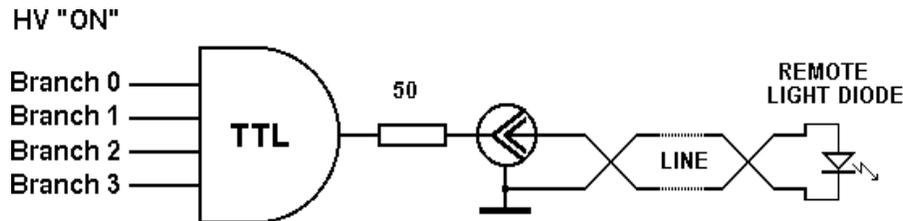

Fig. 5 Schematics of the remote indicator.
- The base voltage (BV) on/off indicators (red). They are positioned opposite to the corresponding branch of a system bus.
- The "LEMO" connector for the remote indication of on/off state of a base voltage. It is positioned above the BV indicators. The circuit of indication is shown in Fig. 5.